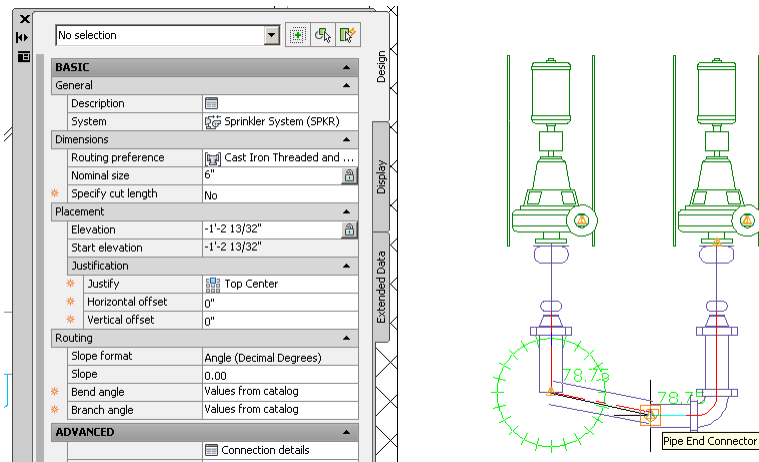

Figure 6.42
22. Select the suction piping coming from the Pump up to the elbow at the bottom of the screen. (See Figure 6.42 to see the copied pipe.)
24. Select the 6" pipe, click the Plus (+) Grip. For the next point, select the end of the horizontal pipe using the PCON snap and cycle through the solutions by selecting Next from the right click menu. When the solution using a 90-degree elbow is shown, right click and select Accept (see Figure 6.42).